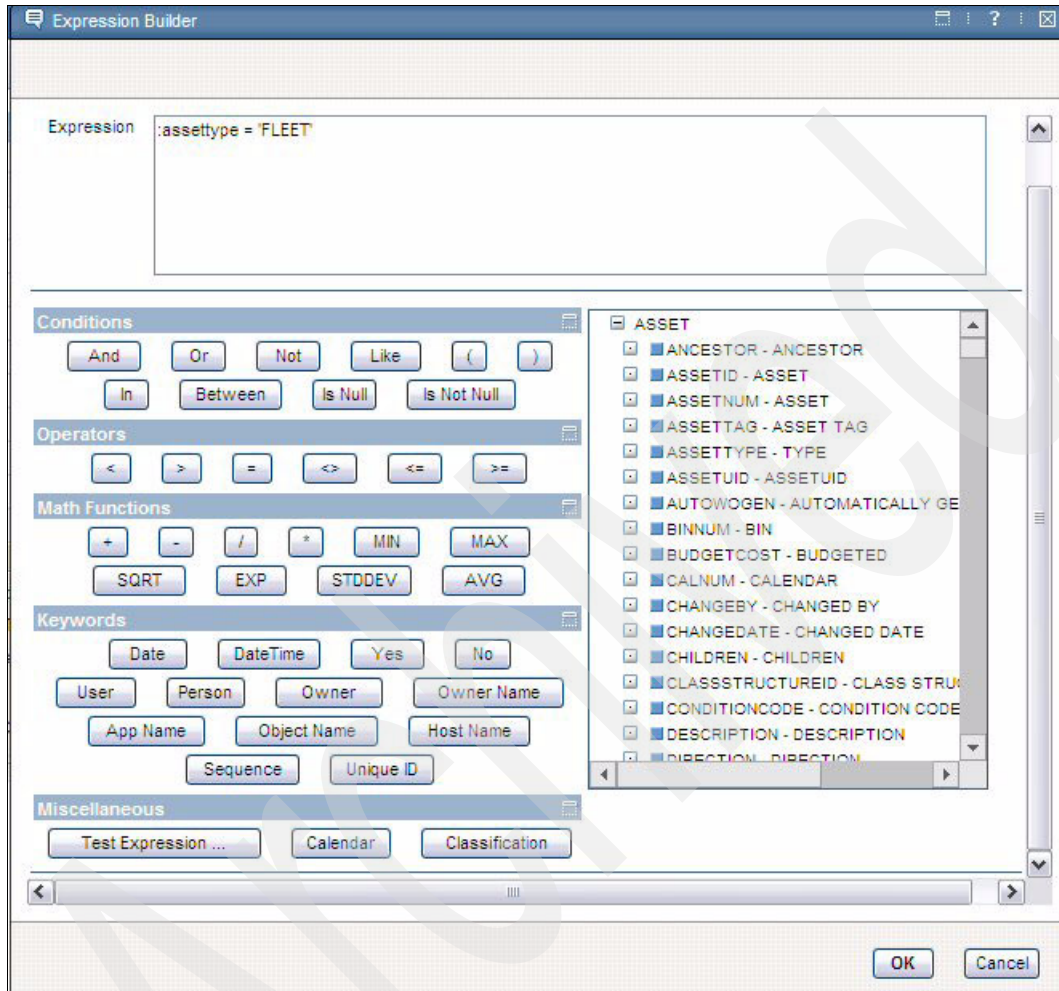

Figure 8-6 Expression Builder - Test Expression button under Miscellaneous
10. Validate the expression by clicking **Test Expression** under the Miscellaneous section, as shown in Figure 8-6.